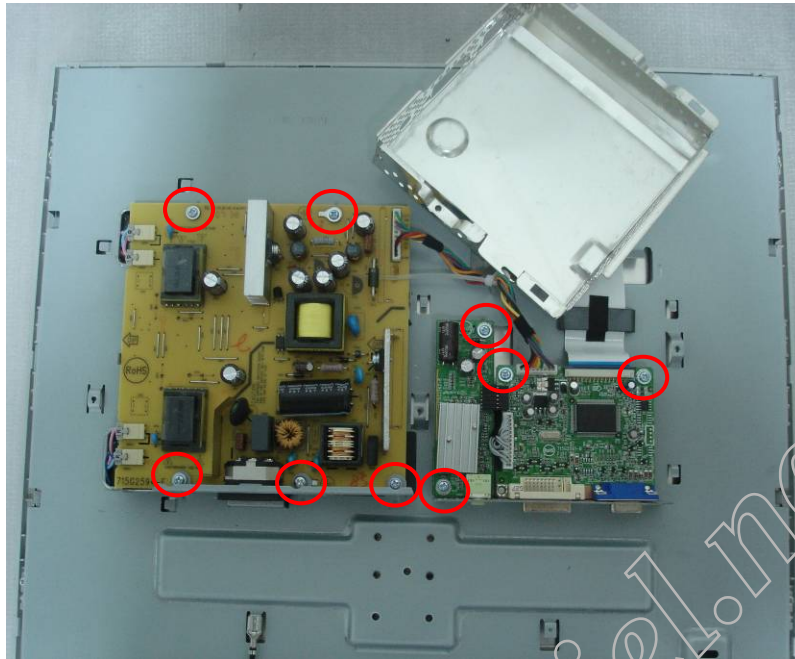

Fig.7
7. Remove the main board, audio board and the power board. as Fig.7
Remove the 9 screws as Fig.7 to remove the main board 、 audio board and the power board.